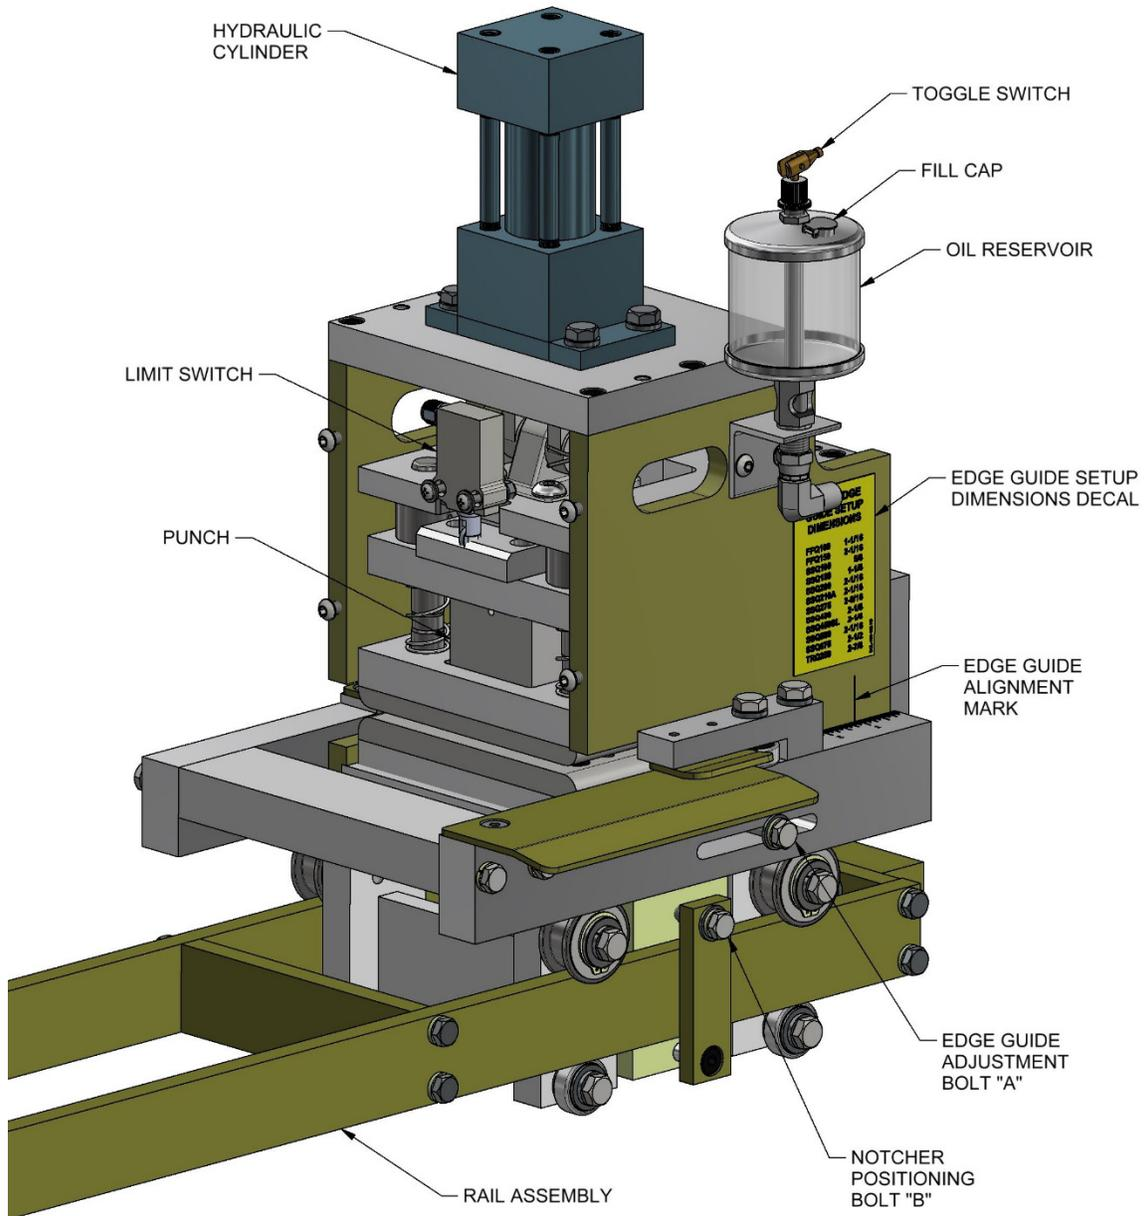
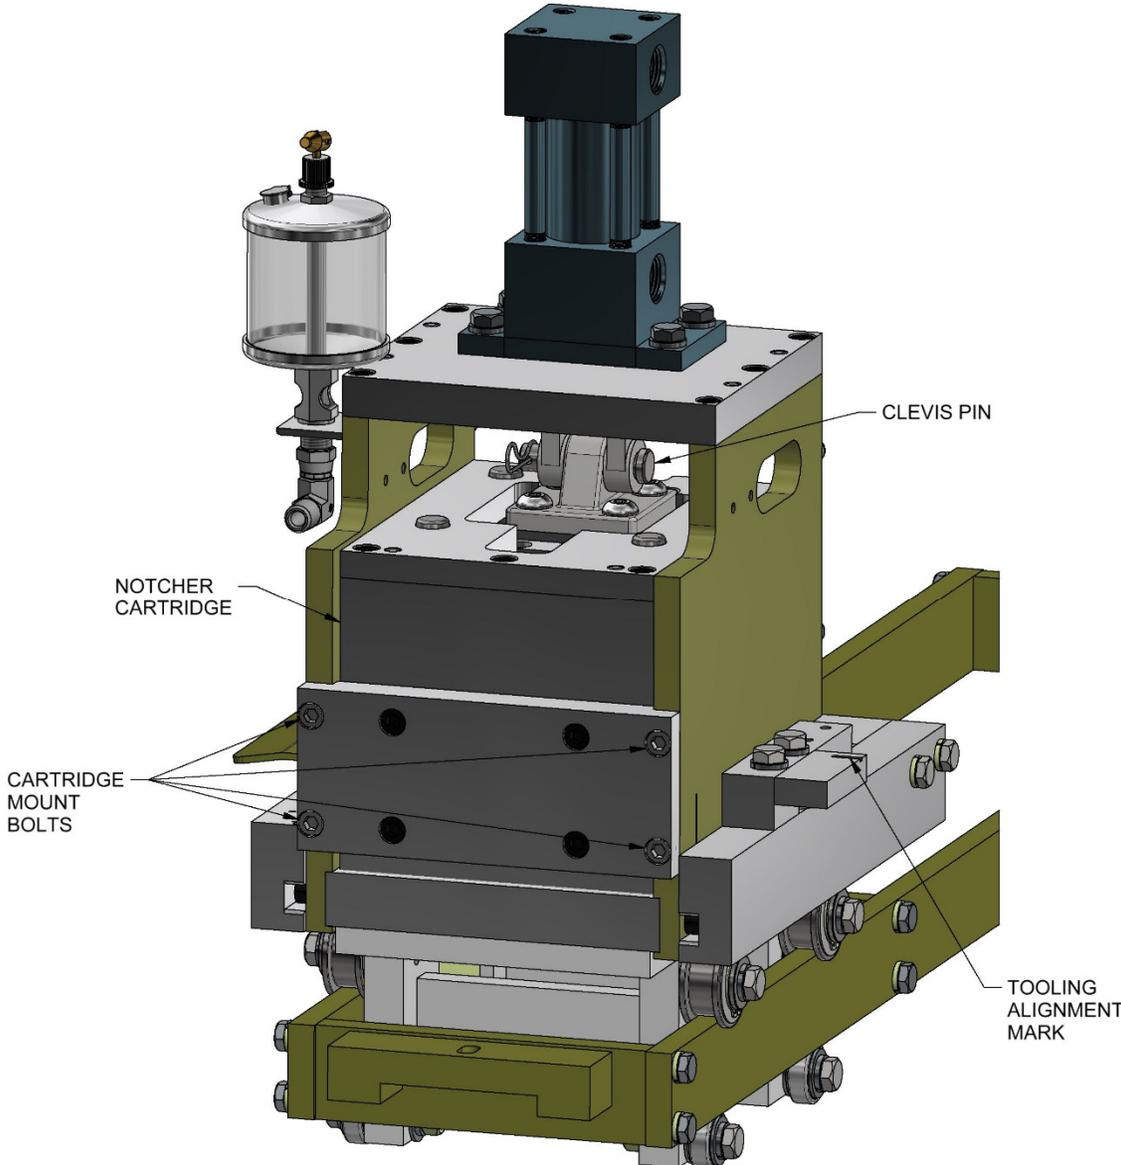
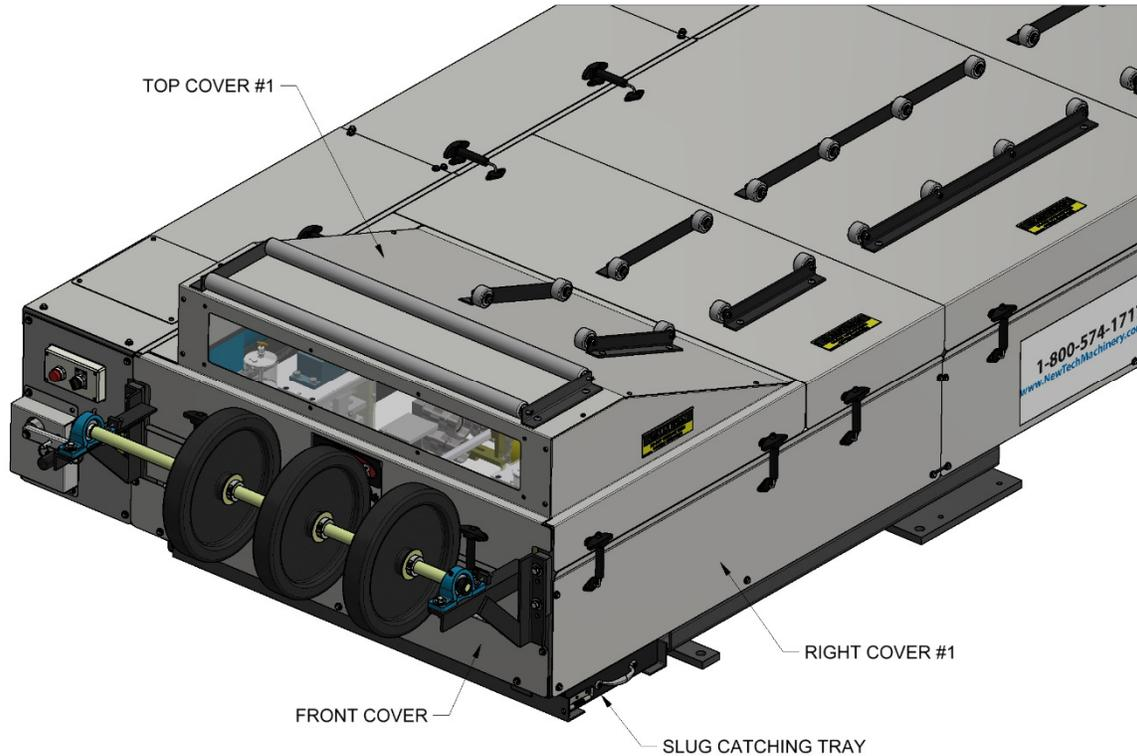

Figure 69: Notcher Overview #1
Figure 70: Notcher Overview #2
Figure 72: Notcher Covers
10. To align the Right Entry Guide, loosen the Lock Down Handle on the Right Entry Guide (Figure 36). Slide the entry guide to the left or right until the Entry Guide Alignment Notch is directly under one of the notches on the Tooling Rail Marker Plate. Make sure to choose the notch on the Marker Plate that corresponds to the desired leg configuration as noted on the decal on the top of the Marker Plate (Figure 37). **Note: If you have a Notcher System installed you would instead loosen the Notcher Positioning Bolt "B" on the right notcher, slide it left or right until the marker lines up with the tooling, and retighten the bolt (see Figure 69).**
12. Loosen the Lock Down Handle on the left entry guide. **Note: For notcher systems loosen the Notcher Positioning Bolt "B" on the left notcher (see Figure 69).**
14. Slide the Left Entry Guide to the left or right to accept the new coil width. Make sure that the material is captured snugly between the entry guides and re-tighten the Lock Down Handle. **Note: For notcher systems slide the Left Notcher left or right to capture the material then tighten the Notcher Positioning Bolt "B" (see Figure 69).**
4. Loosen the Notcher Positioning Bolt “B” on the left Notcher (see Figure 69). Slide the left Notcher left or right as needed and insert the piece of coil into the Notchers.
(Refer to Figure 69 through Figure 72)
2. Remove Top Cover #1, Right Cover #1, and the Front Cover as shown in Figure 72.
5. Remove the Clevis Pin (see Figure 70).
6. Loosen the Edge Guide Adjustment Bolt “A” (see Figure 69).
7. Remove the four Cartridge Mount Bolts (see Figure 70) using a ¼” allen wrench.
(see Figure 69 and Figure 70)